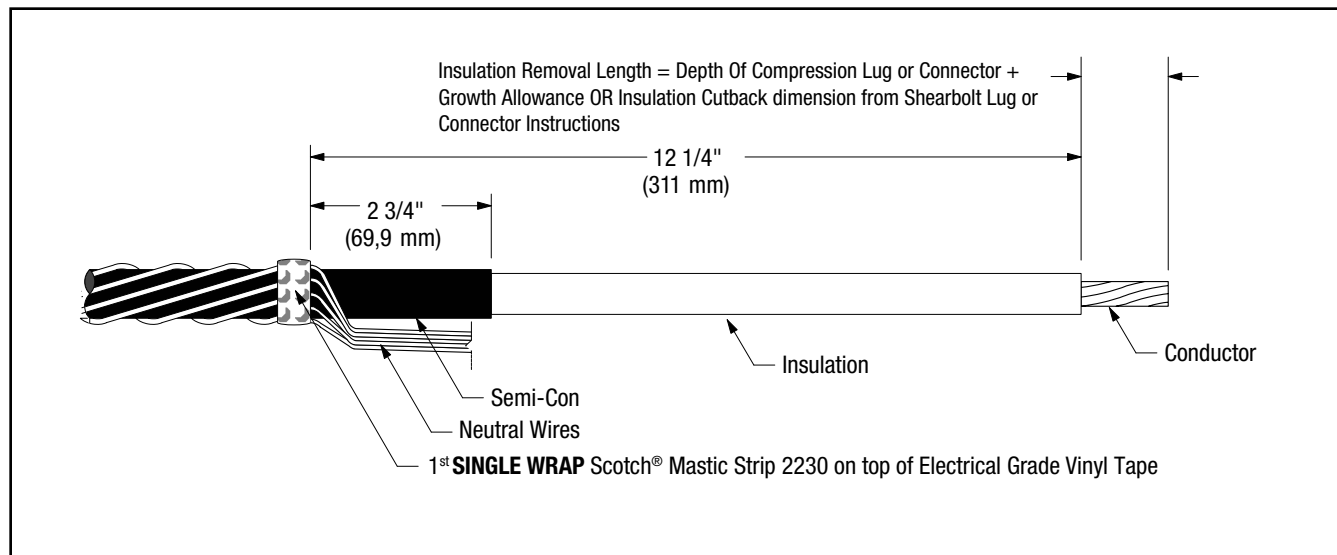

Figure 7
- 6.3 Prepare cable using dimensions shown in Figure 7. **BE SURE TO ALLOW FOR DEPTH OF TERMINAL LUG OR CONNECTOR.** If using 3M Shearbolt Lugs QL2 Series: Two Hole, or 3M Mechanical Shearbolt Connector QCI Series, proceed to Step 6.4. If using a Crimp Type (Compression) lug, measure the depth of the barrel. If using a Crimp Type (Compression) connector, measure to the barrel center stop/midpoint, and see the NOTE below, in order to calculate the Insulation Removal Length. Table 7 can be used to assist in calculating the total Jacket Removal Length when using a compression lug or connector.
- 6.5 Secure neutral wires to cable with several highly stretched layers of electrical grade vinyl tape around the cable and neutral wires 2 3/4" (69,9 mm) from cut edge of cable semi-con (Figure 7).
- 6.6 Select a Scotch® Mastic Strip 2230 from kit and remove white release liners. Using light tension, apply a **SINGLE WRAP** of mastic around the cable and neutral wires 2 3/4" (69,9 mm) from cut edge of cable semi-con, directly on top of vinyl tape (Figure 7). Cut off excess.